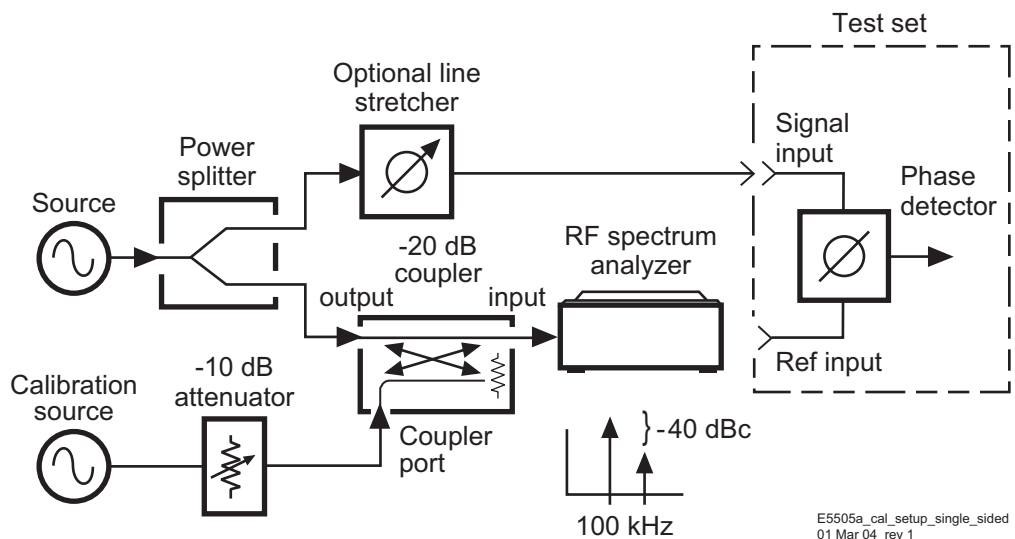

Figure 159 Calibration setup for single-sided spur
- 1 Connect circuit as per Figure 159, and tighten all connections. Note that the input signal into the directional coupler is being supplied to the coupler's output port.